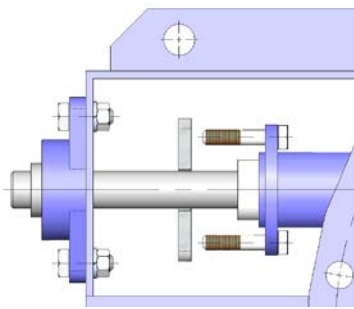

fig. 11
3. Choose any of the packing glands and start to release and remove the nuts (13) from the packing gland flange (8) in order to move it along the shaft, separating it from the packing gland bushing (7) (fig. 11).